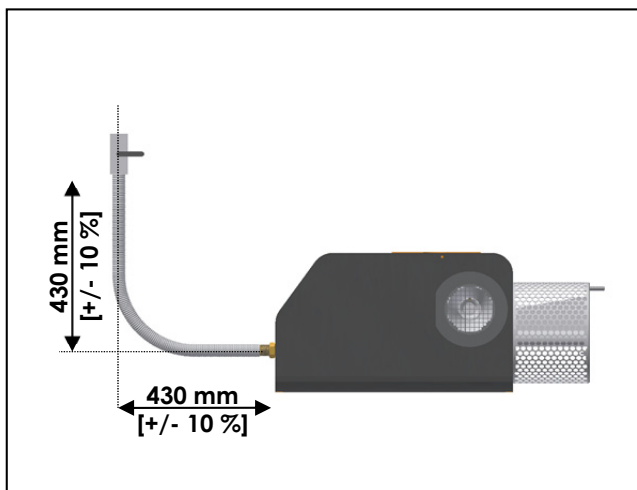

Fig 29: Vertical connection with 90° bend
- ⇒ Mount a flexible hose only with 90° bend or with 2 x 90° elbow fittings in a 180° bend according to Fig 29, 30 and 31.